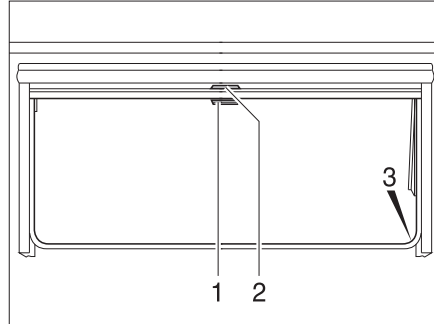

Fig. 76 Hinged window
- Pull blind at the handle (Fig. 76,2) downwards. If the blind is to be completely closed, it is suspended into the locking devices (Fig. 76,3) situated on both sides of the window frame.
- If the blind is completely closed: Press handle (Fig. 76,2) downwards and, at the same time, tilt it slightly inward. The blind can be taken out of the locking devices situated on both sides of the window frame.
- If the blind is in an intermediate position: Pull the handle (Fig. 76,2) slightly downwards until the locking device releases.
- Pull insect screen at the handle (Fig. 76,1) down and hang it into the locking devices (Fig. 76,3) situated on both sides of the window frame.
- Press handle (Fig. 76,1) downwards and, at the same time, tilt it slightly inward. The insect screen can be taken out of the locking devices situated on both sides of the window frame.